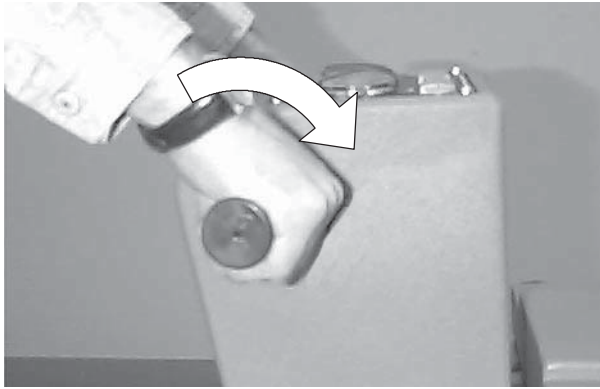

FIG. 11
2. Twist control grips forward to lower pad to floor and to start pad motor (Figure 11).